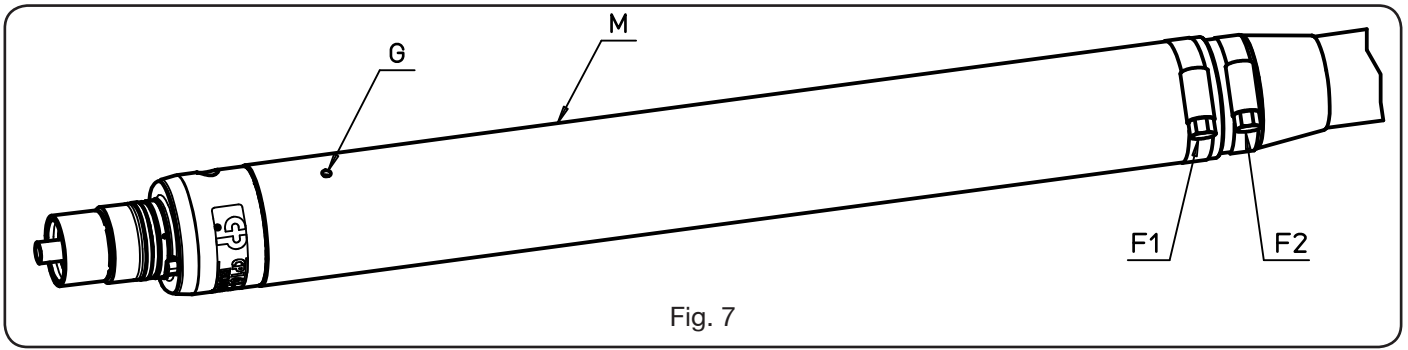

Fig. 7
- Remove clamp **F1** Fig.7 and extract the sleeve.